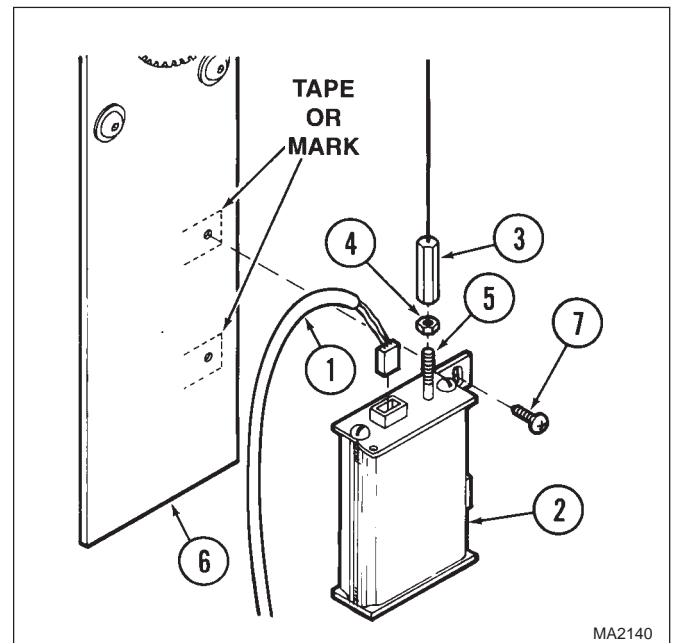

Figure 4-14. Base Transducer Removal / Installation
- (2) Lower the bellows assembly (Refer to para 4-3).
- (3) Disconnect wire harness (1, Figure 4-14) from base transducer (2).
- (4) While holding cable/turnbuckle assembly (3), loosen nut (4).
- (5) Unscrew cable/turnbuckle assembly (3) from transducer rod (5).
- (6) Using tape or a sharp object, mark the present position of base transducer (2) on the base reducer plate (6) by tracing the outline of the base transducer mounting brackets.
- (7) Remove two screws (7) and base transducer (2) from base reducer plate (6).
- (8) Remove nut (4) from transducer rod (5).